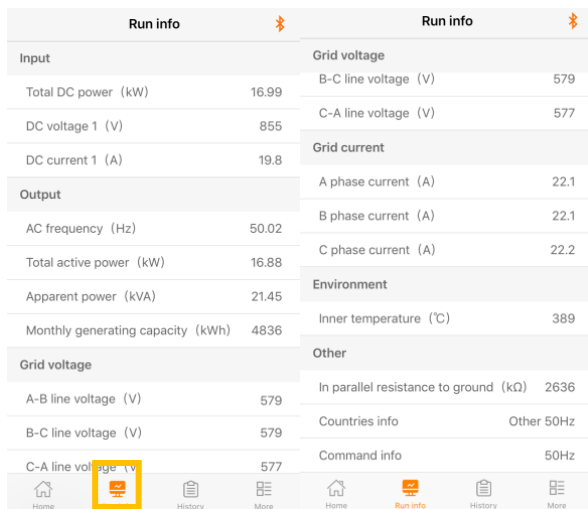

Fig. 10-6 Run info
Step 4 The run info includes the input, output, string, grid voltage, grid current, environment, and other info as shown in Fig. 10-6. You can swipe up and down to check the corresponding info.